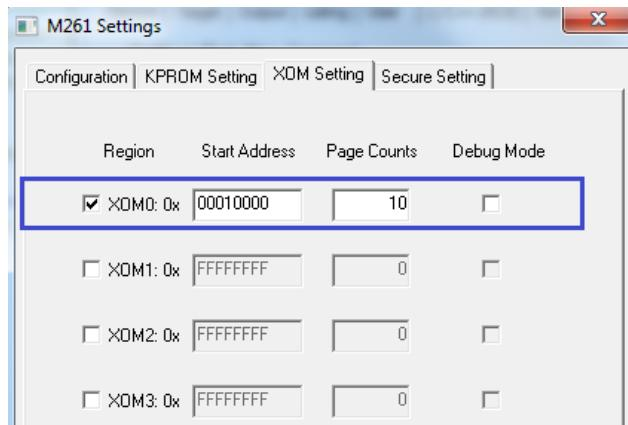

Figure 3-4 Keil® MDK XOM Setting
- After entering the “M261 Settings” page, select “XOM setting” page to enter XOM setting page, as shown in Figure 3-4.